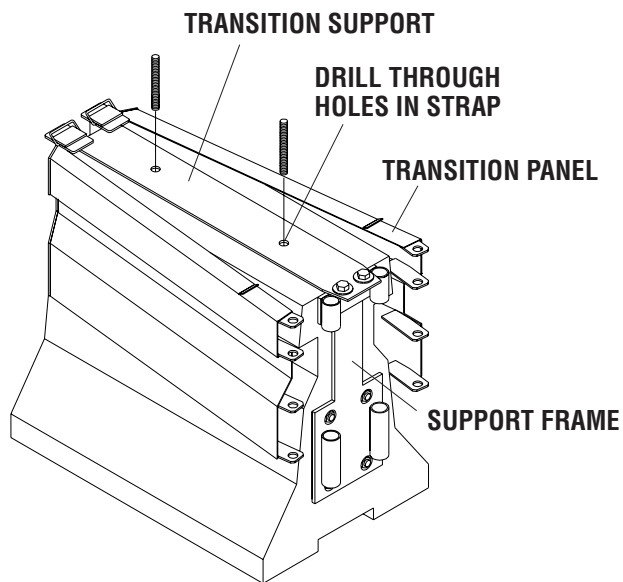

Figure 17
Step 6: Remove Backup and install MP-3 Studs in top of QMB (See Figure 17)